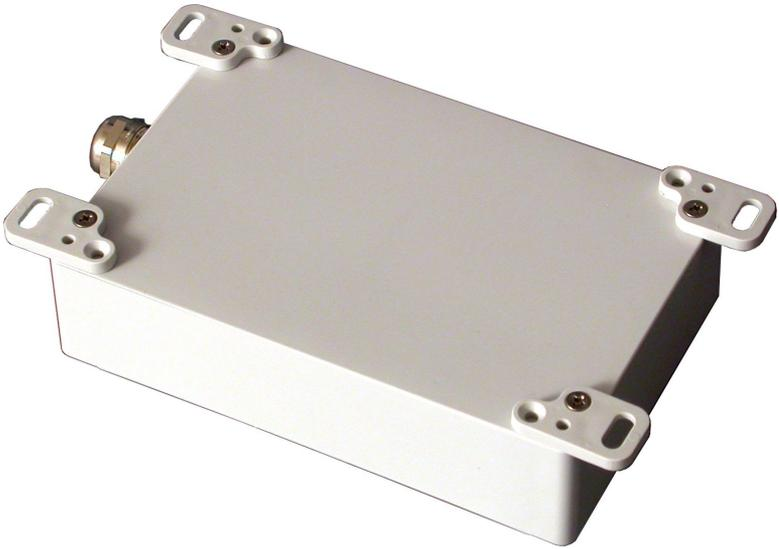

Figure 2.1: Model 1095A/C Mounting Tabs, Attached
2. Align the tab with the hole, in the desired orientation, and mount the M3 screw through the tab and into the rear panel mounting hole as shown in Figure 2.1.